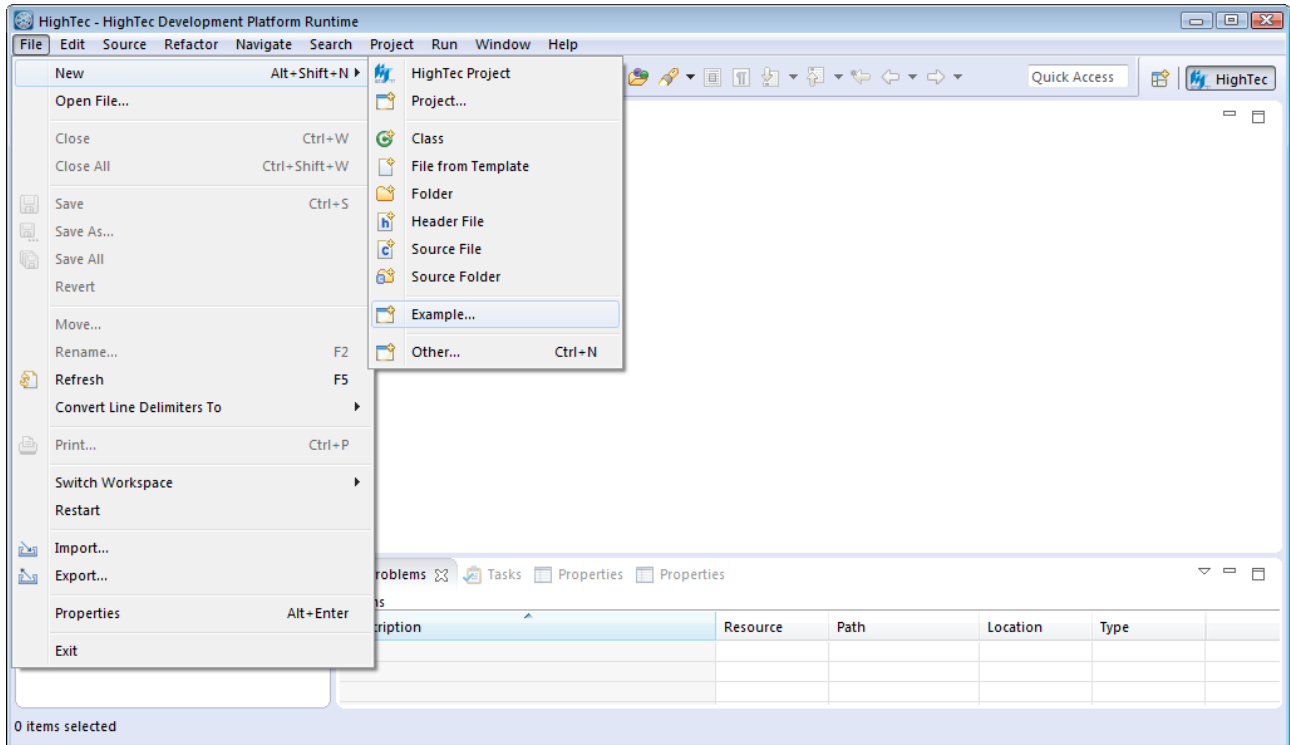
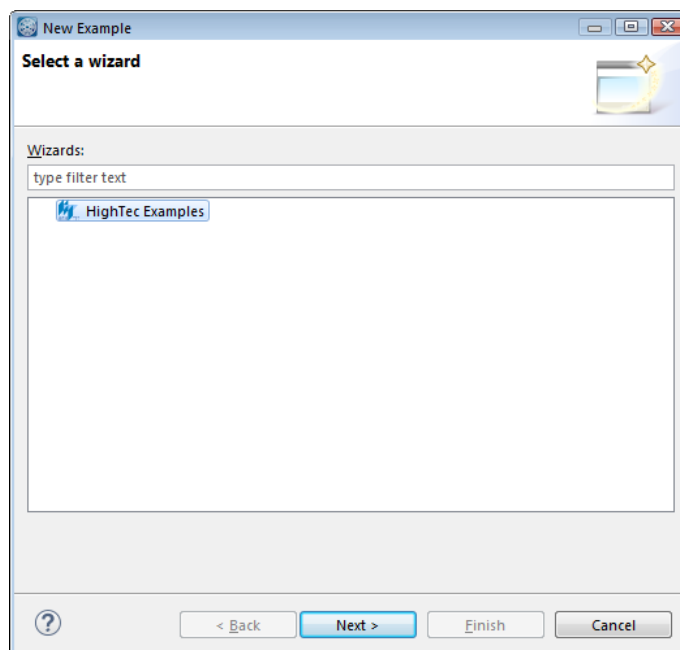

Figure 10 Menu File / New / Example
Figure 11 New Example Wizard
Before creating a TriCore project, it is necessary to have the **HighTec C/C++** perspective on the workbench (Figure 11). By default, this should be the case when you start Eclipse, but if it is not, do the following.
1. From the **File** menu select **New - Example** (Figure 10). The New Example wizard appears (Figure 11).